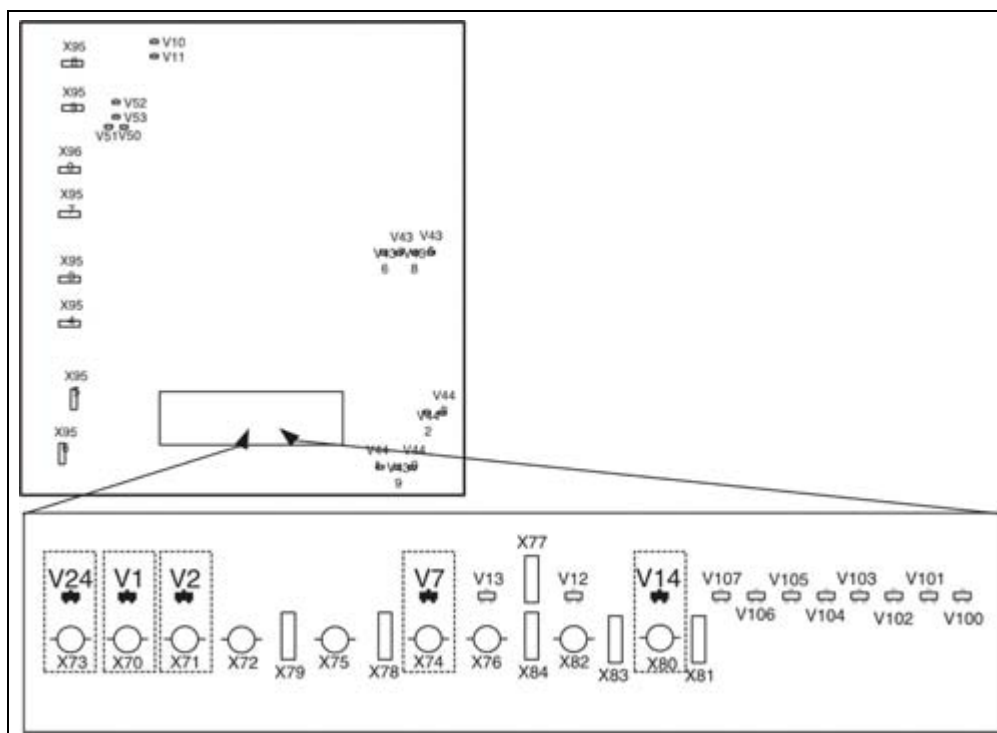

Fig. 16: BUC (2)
- On PC board D1, at least the LEDs (V 24; V1; V2; V7; V14) that appear dark in the figure must light up, see (Fig. 16 / p. 34). Otherwise, check the voltage supply according to the circuit diagram.